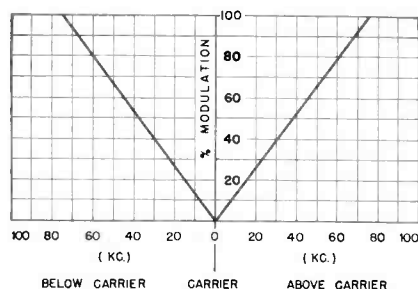

Figure 1
2. The frequency deviation of the carrier is linearly proportional to the amplitude of the audio component, varying between 0 to 75 kc. for corresponding percentages of modulation between 0 and 100%. This is shown graphically in Fig. 1.